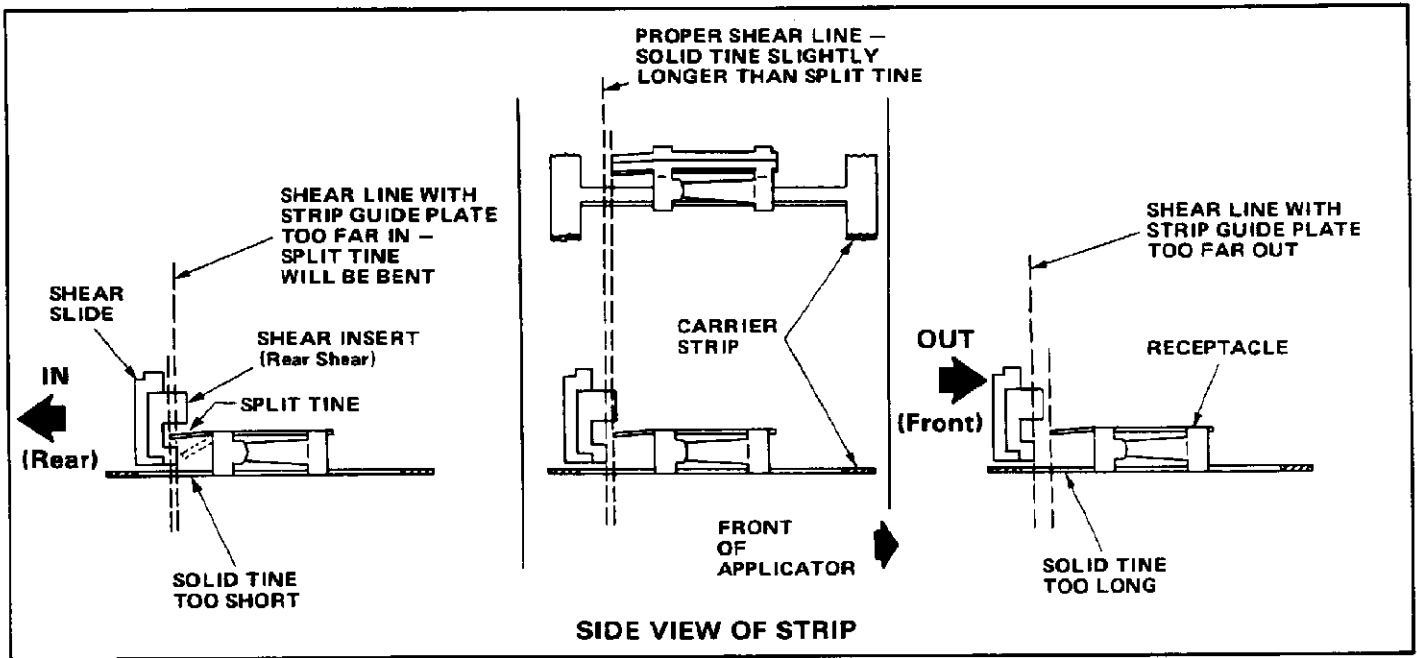

Fig. 2
4.1. Strip Guide Plate Adjustment (Figure 2)
The successful operation of this applicator depends very much on the shearing of the receptacle from the rear carrier strip. The applicator operates best when the receptacle is sheared in such a way that the lower tine (the solid tine connected to the carrier strip) is slightly longer than the upper tine (split tine). See Figure 2. This difference is only a few thousandths of an inch, but should be visible when the receptacle is inspected. If the solid tine is not slightly longer than the split tine, the applicator will very probably jam.